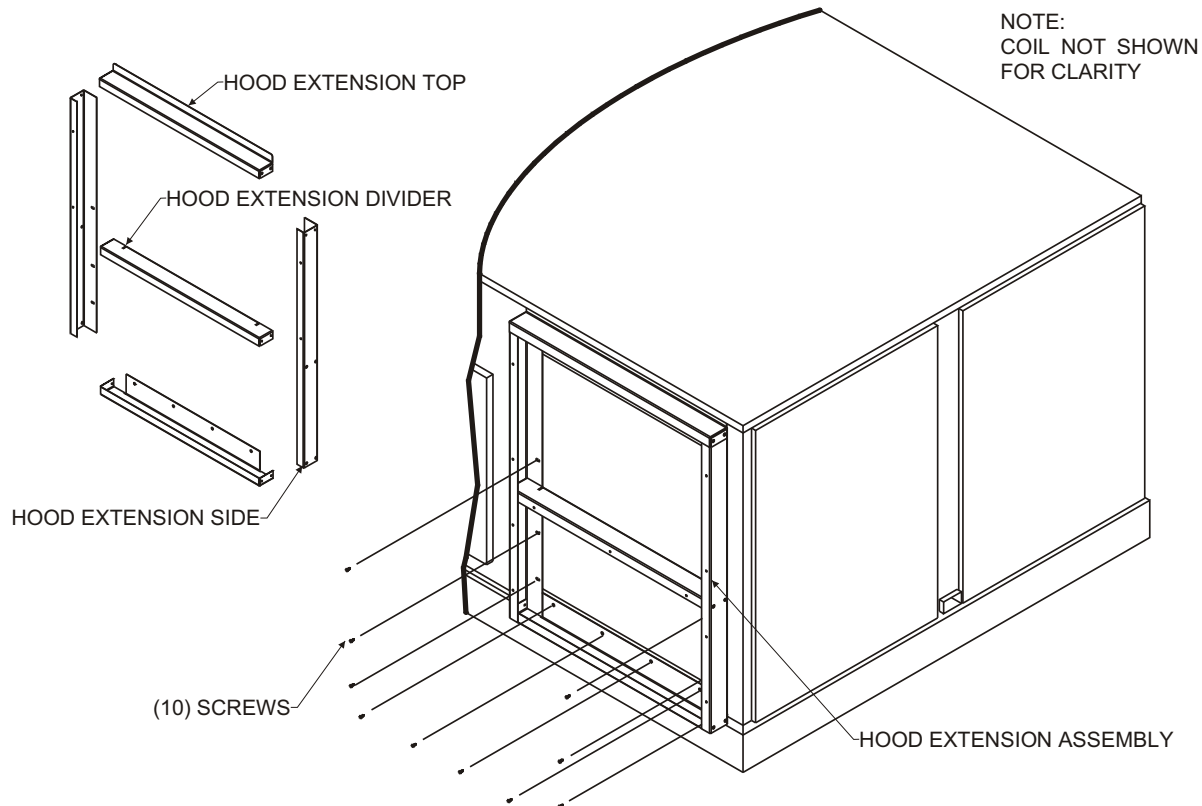

FIGURE 6
Fasten HOOD EXTENSION SIDES to the outside of HOOD EXTENSION BOTTOM and HOOD EXTENSION DIVIDER with screws provided with economizer. Fasten HOOD EXTENSION TOP to the OUTSIDE OF HOOD EXTENSION SIDES. (**SEE FIGURE 6.**)
Install HOOD EXTENSION ASSEMBLY and economizer with remaining screws removed in **STEP 2.** (**SEE FIGURE 6.**)
Mount the fresh air (upper) hood ((2) PERMANENT FILTER, (5) OA RAINHOOD ASSY – LEFT SIDE, (6) OA RAINHOOD ASSY – RIGHT SIDE, (7) OA RAINHOOD ASSY – BOTTOM, (8) OA RAINHOOD – TOP, (9) OA RAINHOOD – FILTER RETAINERS). Slide the fresh air hood flange under the HOOD EXTENSION top panel flange, align holes and secure with screw(s) provided (**SEE FIGURE 6**).